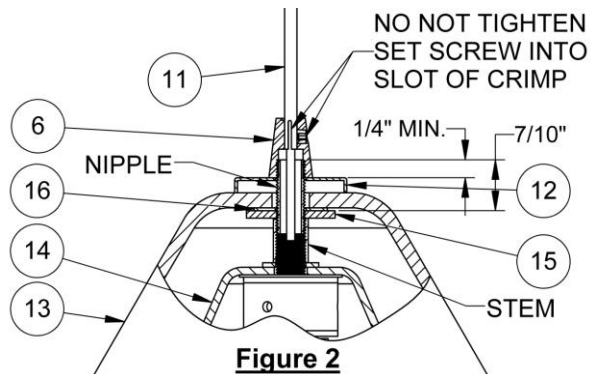

Figure 2
- A. Uncoil braided wire, part of LED pendant inner glass assembly (14) and thread the loose end through outer glass (13), cap (12), lower strain relief, (6), long crimp (11) per Figure 1. Remove the tape from the nipple near rubber washer (16). Make sure threaded washer (15) is snug against the stem with approx. 11/16" to 7/10" of threaded nipple above (15) per Figure 2.
- B. Carefully bring (14) up into the outer glass (13) with rubber washer (16) against the inside top of the glass. Hold onto the braided wire allowing the pendant to hang. There should be about 1/4" of threaded nipple above the cap Figure 2. With the cap (12) on top of (13), thread the lower strain relief (6) onto the nipple. Make any adjustments so the inner and outer glass are centered. Hold inner glass and hand tighten by (6) so the whole assembly is snug. **Do not over tighten.**
- C. Insert the long crimp (11) into the top of (6) so that the slot is about 90° to the set screw, and far enough in so the slot in Figure 2 isn't showing. Tighten set screw using hex-wrench provided. **Do not over tighten or thread the set screw into the slot of crimp.**